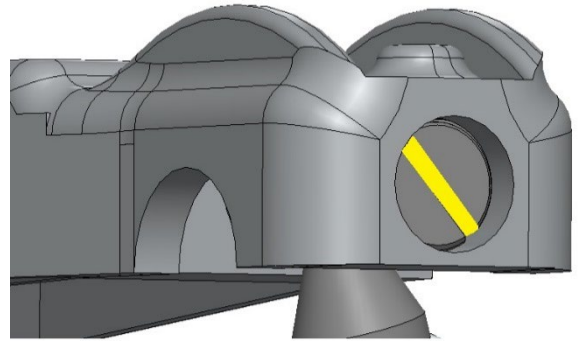

Figure 20: Yoke Rear Pivot Stud
- 6.6.1. Some adjustments critical to the function of the switch are made at the factory, and should not be attempted in the field without the direction or supervision of Southern States Field Service technical staff. In these cases, the area of adjustment will be clearly identified with yellow torque seal. Before removing this seal, please contact Southern States Field Service for assistance. Refer to Figures 20, 21, and 22 for examples of these critical factory adjustments.